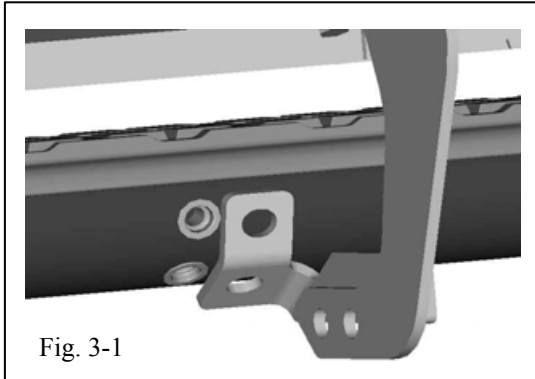

Fig. 3-1
- (a) Locate left hand tube and align mounting holes in tube with mounting holes on bracket (Tubes are labeled RH and LH) (Fig. 3-1).